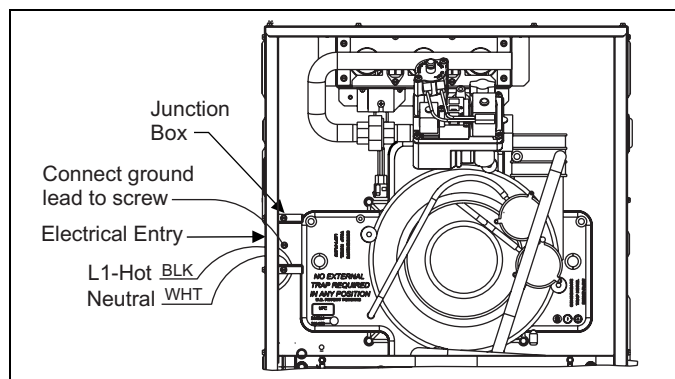

FIGURE 17: Electrical Wiring
2. Remove the screws retaining the wiring box cover. Route the power wiring through the opening in the unit into the junction box with a conduit connector or other proper connection. In the junction box there will be 3 wires, a Black Wire, a White Wire. Connect the power supply as shown on the unit-wiring label on the inside of the blower compartment door or the wiring schematic in this section. The black furnace lead must be connected to the L1 (hot) wire from the power supply. The white furnace screw must be connected to neutral. Connect the power supply ground to the green screw (equipment ground) An alternate wiring method is to use a field provided 2" (5.1 cm) x 4" (10.2 cm) box and cover on the outside of the furnace. Route the furnace leads into the box using a protective bushing where the wires pass through the furnace panel. After making the wiring connections replace the wiring box cover and screws. Refer to Figure 17, "Electrical Wiring".
3. The furnace's control system requires correct polarity of the power supply and a proper ground connection. Refer to Figure 17, "Electrical Wiring"